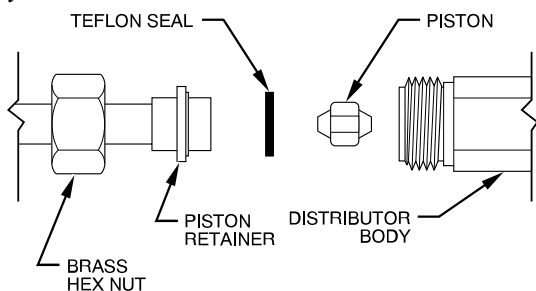

Fig. 16 – Refrigerant Flow-Control Device
1. Recover refrigerant from tubing and coil through high flow service port on suction and discharge lines. Disconnect refrigerant (liquid) tube from distributor body. (See Fig. 16.)